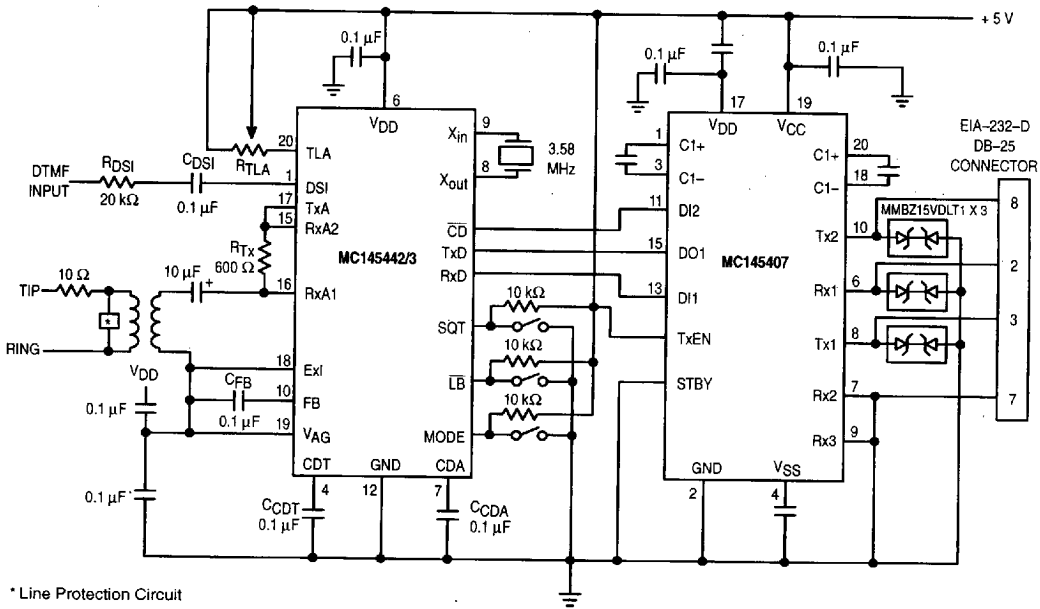

Figure 7. Typical MC145442/MC145443 Applications Circuit
20) to  $V_{DD}$  (Pin 6). Table 3 shows the  $R_{TLA}$  values and the corresponding power output for a  $600 \Omega$  load. The voltage at TxA is twice the value of that at ring and tip because TxA feeds the signal through a  $600 \Omega$  resistor  $R_{Tx}$  to a  $600 \Omega$  line transformer (see Figure 7). When choosing resistor  $R_{TLA}$ , keep in mind that  $-9$  dBm is the maximum output level allowed from a modem onto the telephone line (in the U.S.). In addition, keep in mind that maximizing the power output from the modem optimizes the signal-to-noise ratio, improving accurate data transmission.